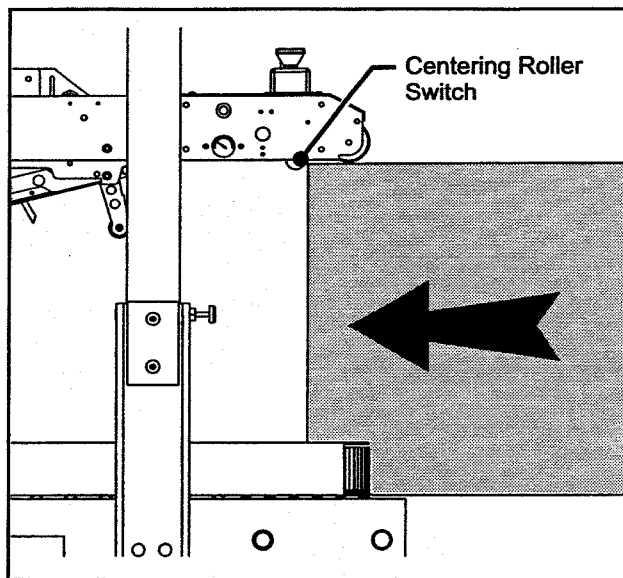

Figure 3-8 – Operation
4. Box is then pushed against belt centering roller switch (Figure 3-8), which closes drive belts and conveys box through machine.